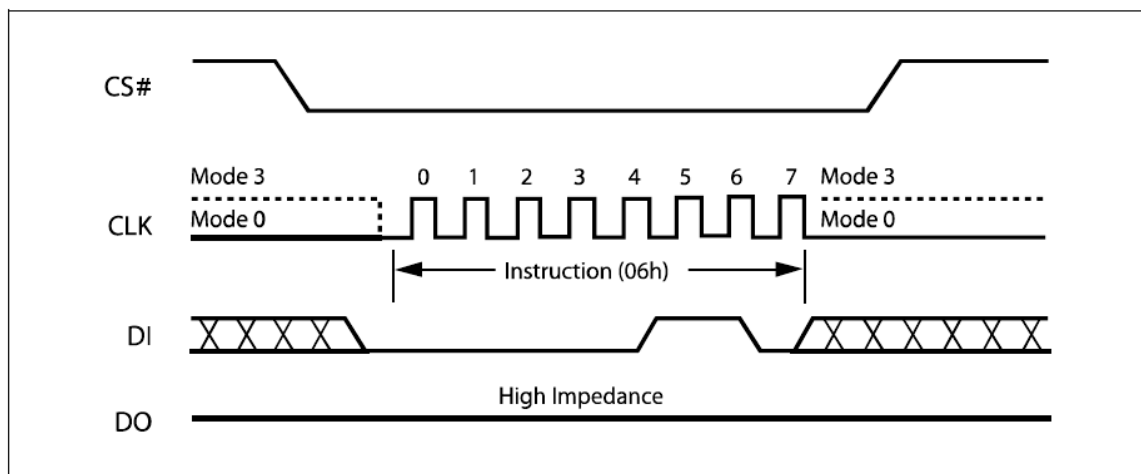

Figure 8. Write Enable Instruction Sequence Diagram
The Write Enable (WREN) instruction (Figure 8) sets the Write Enable Latch (WEL) bit. The Write Enable Latch (WEL) bit must be set prior to every Page Program (PP), Sector Erase (SE), Half Block Erase (HBE), Block Erase (BE), Chip Erase (CE) and Write Status Register (WRSR) instruction.